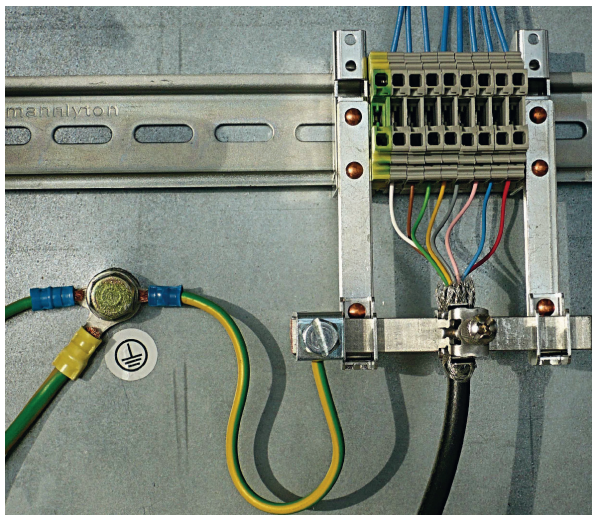

Figure 7.2: Connecting the cable shielding in the switch cabinet
- ↪ Clamp the shield in the switch cabinet flat to FE (see figure 7.2).